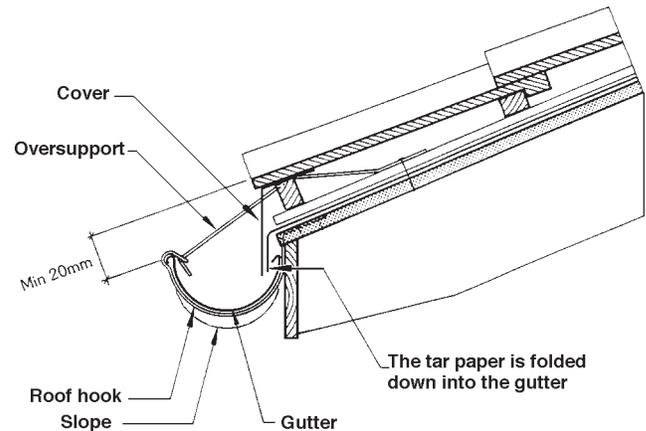

Figure 122
- 122 A 100mm (4 in) roof gutter, correctly installed, will usually have sufficient collection capacity for a house with a floor area of 150m2 (1,500 sq ft). A large enough gutter allows for easy removal of plant debris. Steeply sloping roofs can cause water to gush over the edge of the gutter during heavy rainstorms. This should be considered when dimensioning the gutter. The roof gutter should have a 1% slope towards the downspout. (Figure 122).